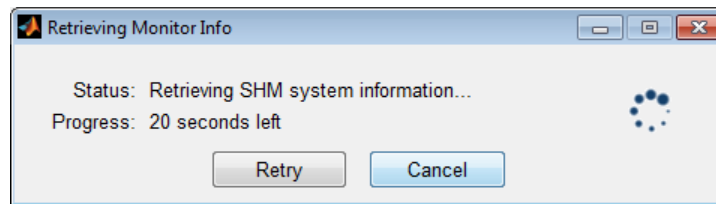
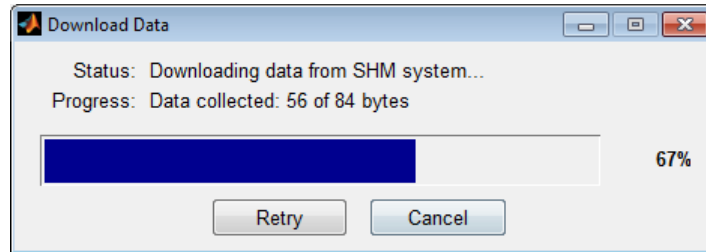

Figure 4.3: 'Retrieving Monitor Info' dialog box.
Figure 5.5: 'Initializing Monitor Logging' dialog box.
- ✓ **Step 4.6** Click **Commands** ▸ **Get Monitor Info...** from the main menubar. This can also be achieved by clicking the  button from the toolbar or by the keyboard combination **Ctrl** + **I**. A 'Retrieving Monitor Info' dialog box will appear, as shown in Figure 4.3, displaying the status of the monitor info request and the time remaining to receive a verification.
- ✓ **Step 5.10** Click Commands > Download... from the main menu bar. This can also be achieved by clicking the  button from the toolbar. A dialog box should display which indicates CMAS is sending the SHM system a monitor info request similar to Figure 4.3 on page 14. If the request is sent successfully, the 'Download Data' dialog box should automatically appear, as shown in Figure 5.5 on the next page.